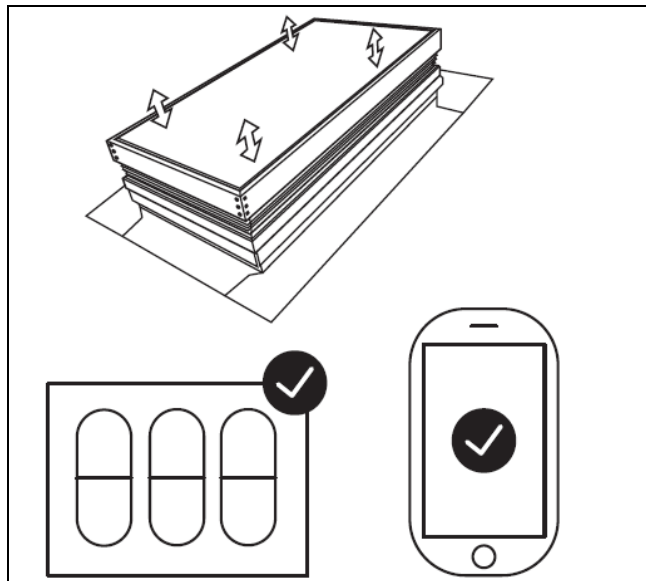

Figure 65
2. Use the pre-associated Awaken remotes to validate skylight functionality. Alternatively download and install the Marvin Home App to test full functionality. See Figure 65.